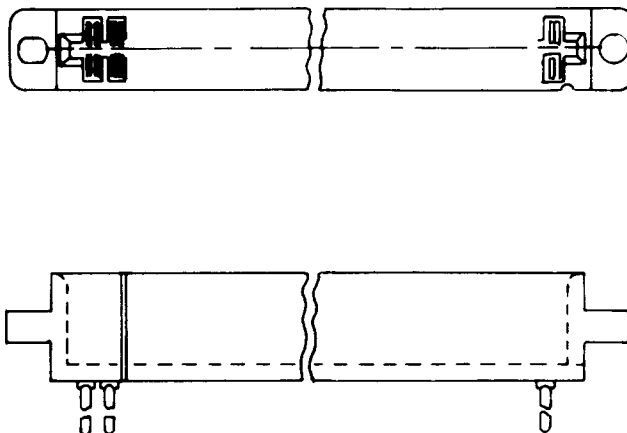

Fig. 2—941A, B, or C Connector
2.02 941A, B, and C: The 941A, B, and C connectors (Fig. 2) consist of a molded housing of insulating material containing spring terminals. One end of each terminal is contained within the housing and is equipped with twin metal contacts for connecting to a printed wiring board terminal. The ends are